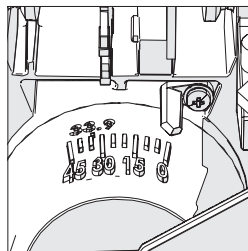

Fig. 8
- Ensure that the cutting head is upright, against its stop and the bevel pointer is indicating 0° on the scale (**Fig. 8**).